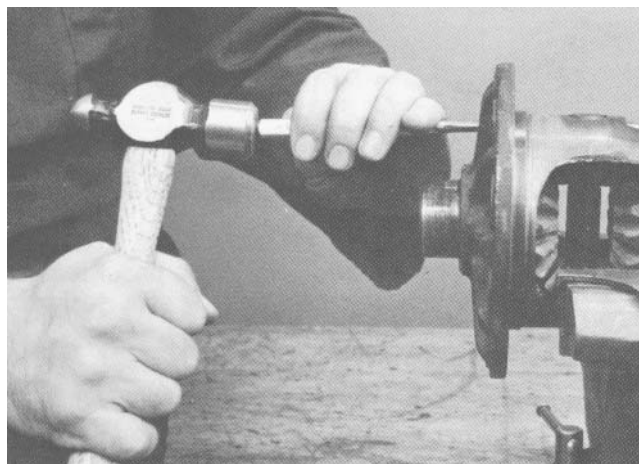

Figure 27
7. Put the case in a vise. Drive the lock pin out of the pinion mate shaft (Fig. 27). Use a small drift punch as shown.